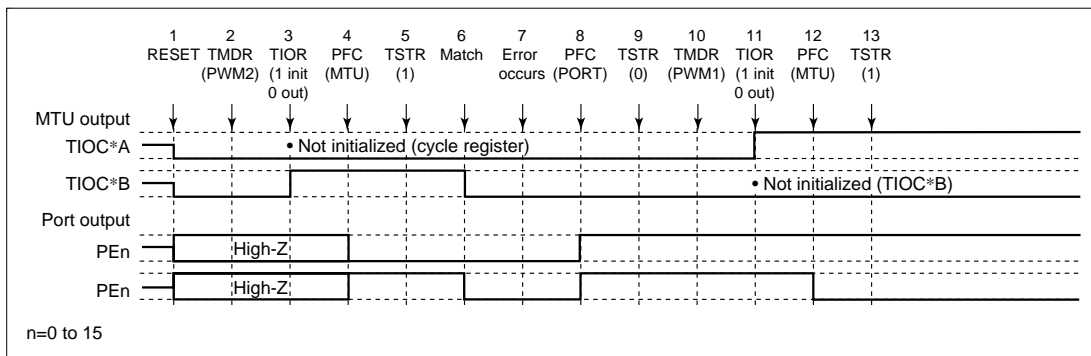

Figure 12.109 Error Occurrence in PWM Mode 2, Recovery in PWM Mode 1
(14) Operation when Error Occurs during PWM Mode 2 Operation, and Operation is Restarted in PWM Mode 1: Figure 12.109 shows an explanatory diagram of the case where an error occurs in PWM mode 2 and operation is restarted in PWM mode 1 after re-setting.